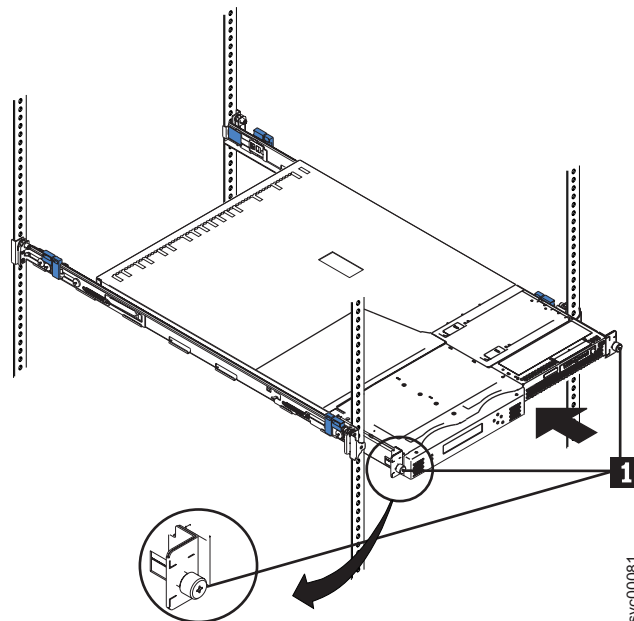

Figure 41. Installing the SAN Volume Controller 2145-4F2 into a rack
3. Fully tighten the two captive thumbscrews ( **1** in Figure 41).